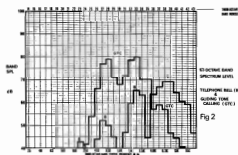

Fig. 2 Telephone Bell (B) and Gliding Tone Calling (GTC)
The acoustic spectrum of the 800 series telephone bell (see Figure 2) indicates that most of the bell energy lies in the frequency range above 2000 Hz. Such frequencies are largely ineffective for elderly people suffering from prebycusis (high-tone deafness), are readily absorbed by room furnishings, and are not readily transmitted into adjoining rooms.
The Australian Post Office introduced a gliding tone caller in 1974 which was based on a design by J.M. Bryant (5). This caller incorporates a swept tone signal and a small loudspeaker to produce an acoustic output within the frequency range 400 to 3000 Hz (Figure 2). Persons with a high-tone hearing loss can more readily detect the tone signal than the bell sound; furthermore the tone signal is not as greatly attenuated by room